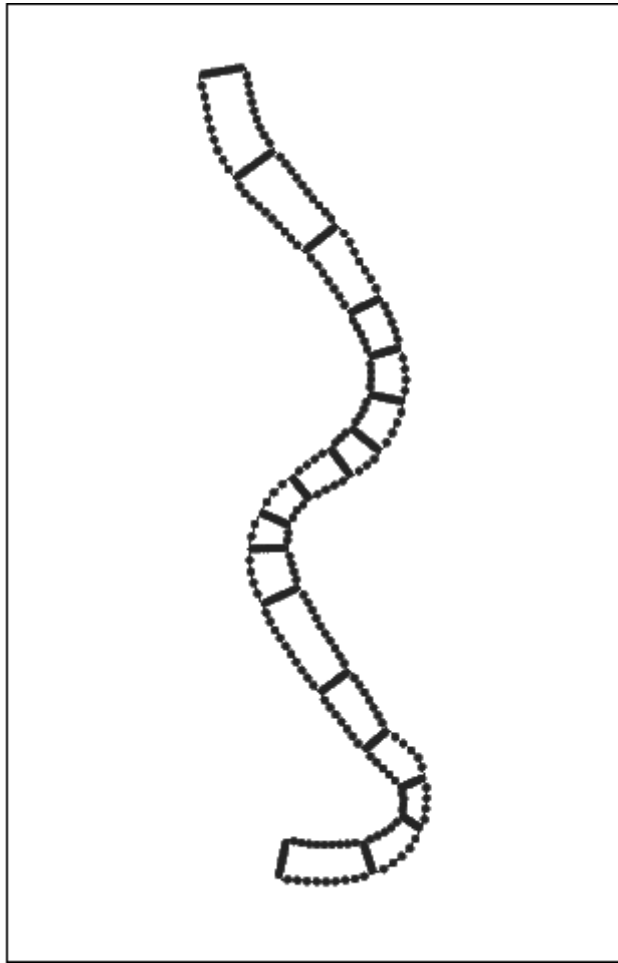

Figure 6
1. With the *Create Feature Arc*  tool, create perpendicular arcs across the channel as shown in Figure 6.